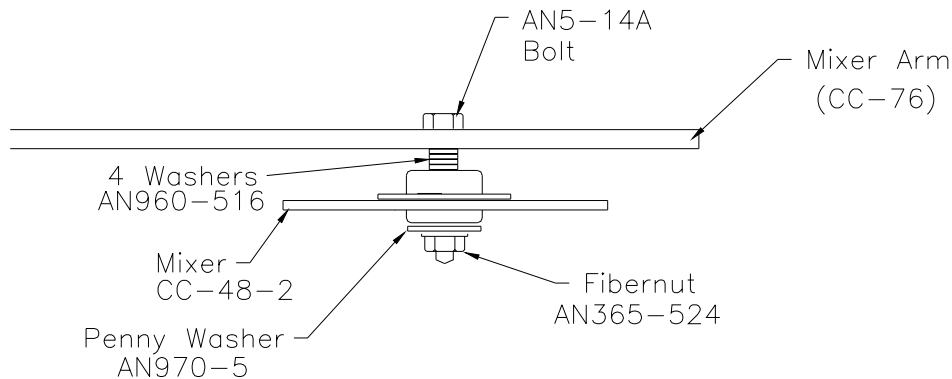

Figure 20.5.15
24) Attach the mixer assembly to the mixer arm with an AN5-14A bolt, 4 AN960-516 washers, one AN970-5 penny washer and one AN365-524 fibernut. Figure 20.5.15.